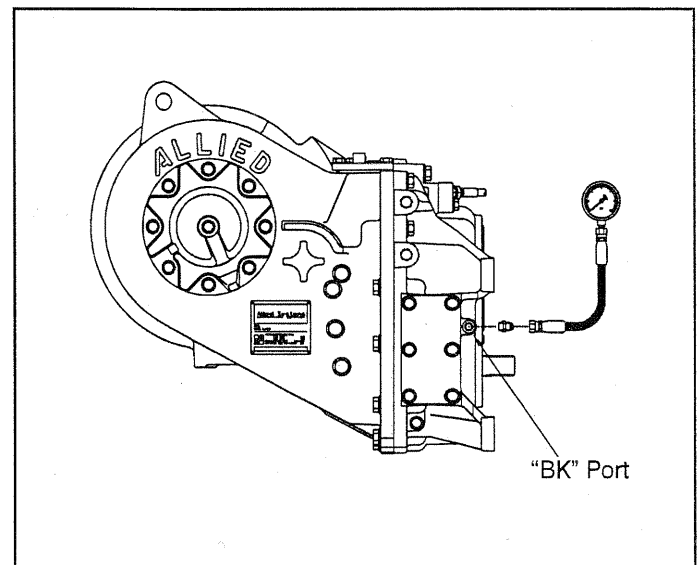

Fig. 3-3 Test Gauge at BK Port
Accumulator Pressure Test (BK Port, See Fig. 3-3)
Pressure Check of the Brake (BK Port, See Fig. 3-3)
- A. Install a 2000 kPa (300 psi) gauge in Check Port BK (see Fig. 3-3). Run the tractor engine at low idle.
- C. Install a 0-2000 kPa (0-300 psi) gauge in the brake pressure test port (marked BK). See Fig. 3-3.